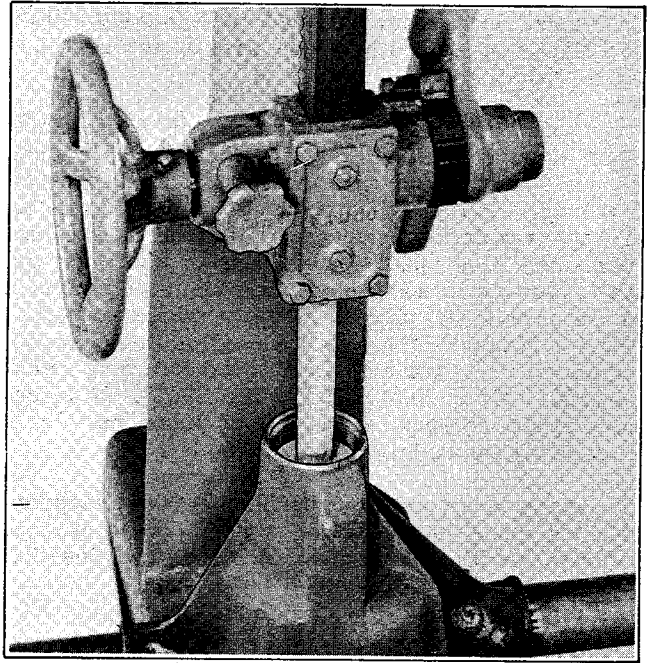

Figure 2-16. Installing Front Bearing Cup
13. Press drive pinion rear bearing cup (28) and shim pack (30) in carrier, using tool similar to one shown in Figure 2-16.
14. Press front bearing cup (27) in carrier with press tool similar to one shown in Figure 2-16. Install drive pinion shaft.
15. Press drive pinion shaft front bearing cone (26) on shaft (22) in carrier (support pinion gear end). Lubricate bearings with differential lubricant. Rotate drive pinion.